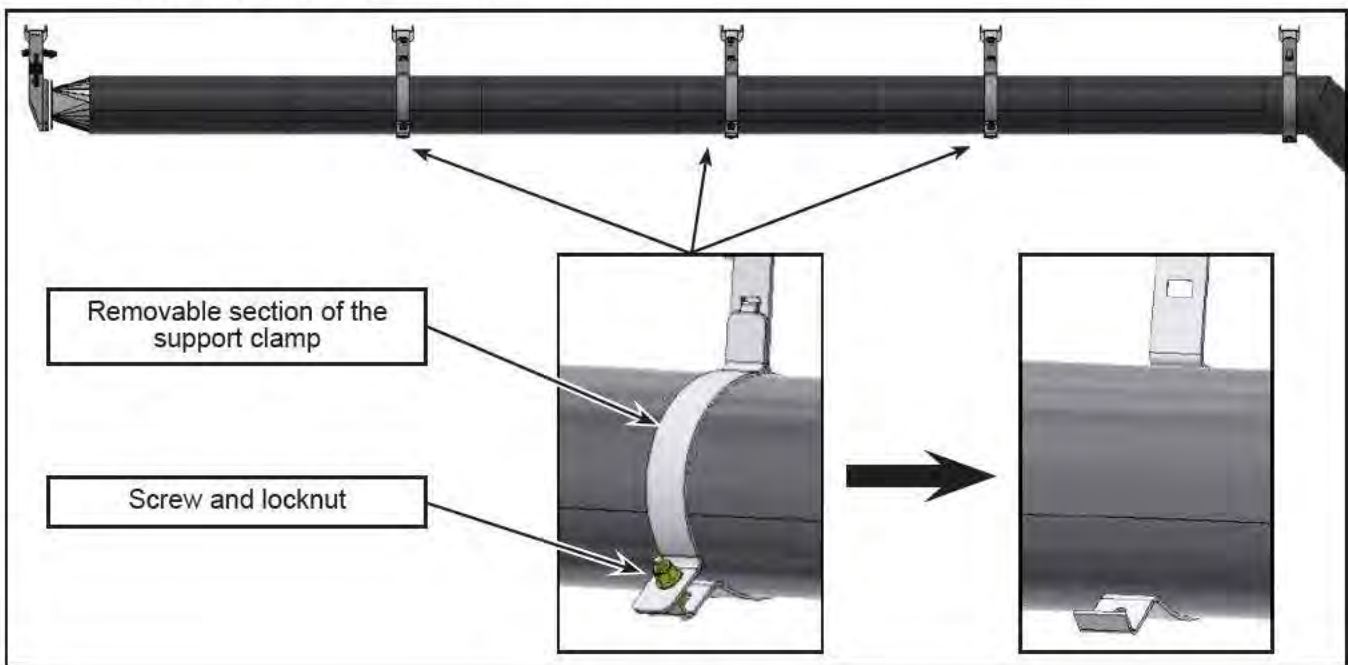

Figure 7 - Open the Support Clamps
- b. Open the 3 support clamps. Unscrew the screw, lift the removable section of the support clamp and remove (Figure 7). Keep all parts and hardware.
- Close the 3 support clamps with the removed support clamp section and secure with the M6x30 screw and the locknut (ref. Figure 7).